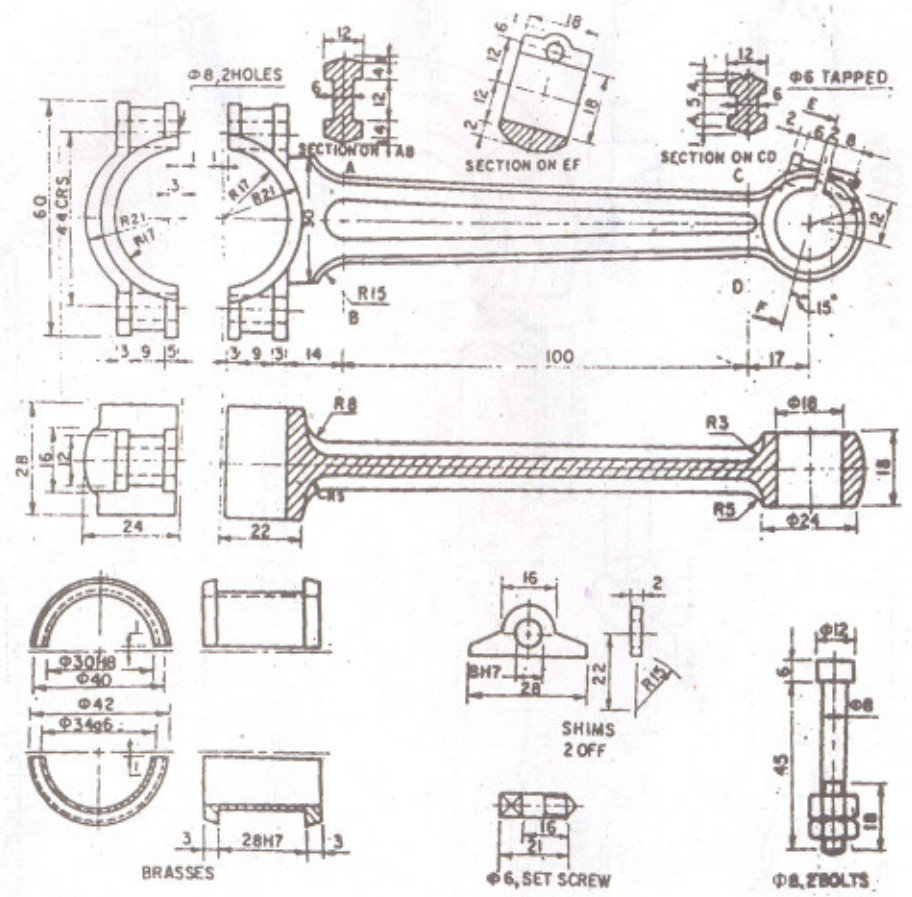

Figure-2: Details of Connecting Rod
- Q8) Figure-2 shows the details of a connecting rod for Petrol engine. Assemble all the parts and draw the following views of the connecting rod: